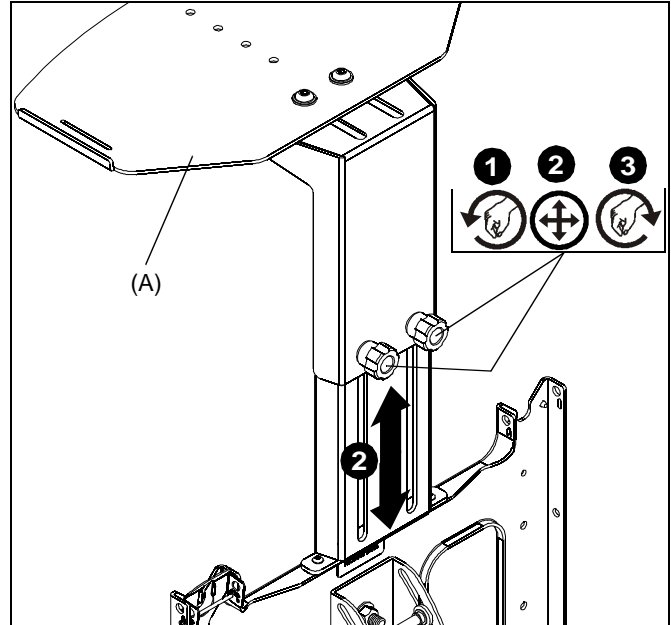

Figure 5
1. Loosen two adjustment knobs on the back of the PAC716 shelf (A). (See Figure 5)
2. Raise or lower shelf to desired height. (See Figure 5)
3. Tighten two adjustment knobs on the back of the shelf until mount is secure. (See Figure 5)